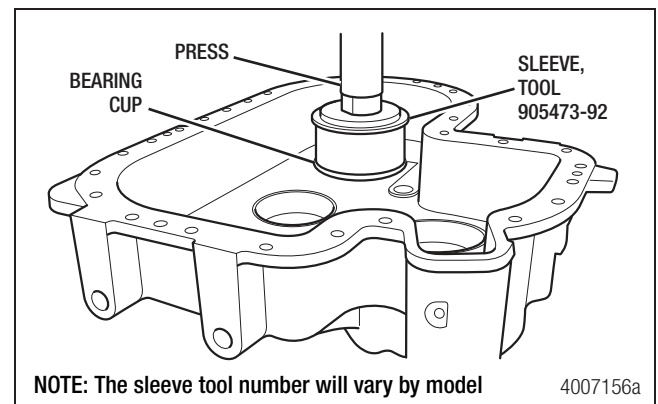

Figure 7.14
- Use a mallet or press and sleeve to install the bearing cups into the bore until correctly seated. Refer to "Tools" on page 108 to identify the correct sleeve for the model being serviced. Refer to "End Play Check and Adjustment" on page 67 for initial shim stack up requirements. Figure 7.14.